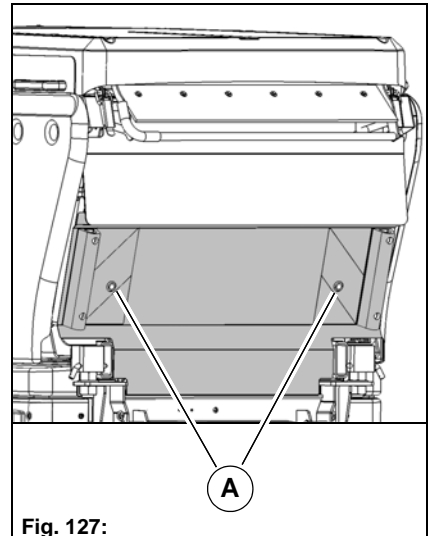
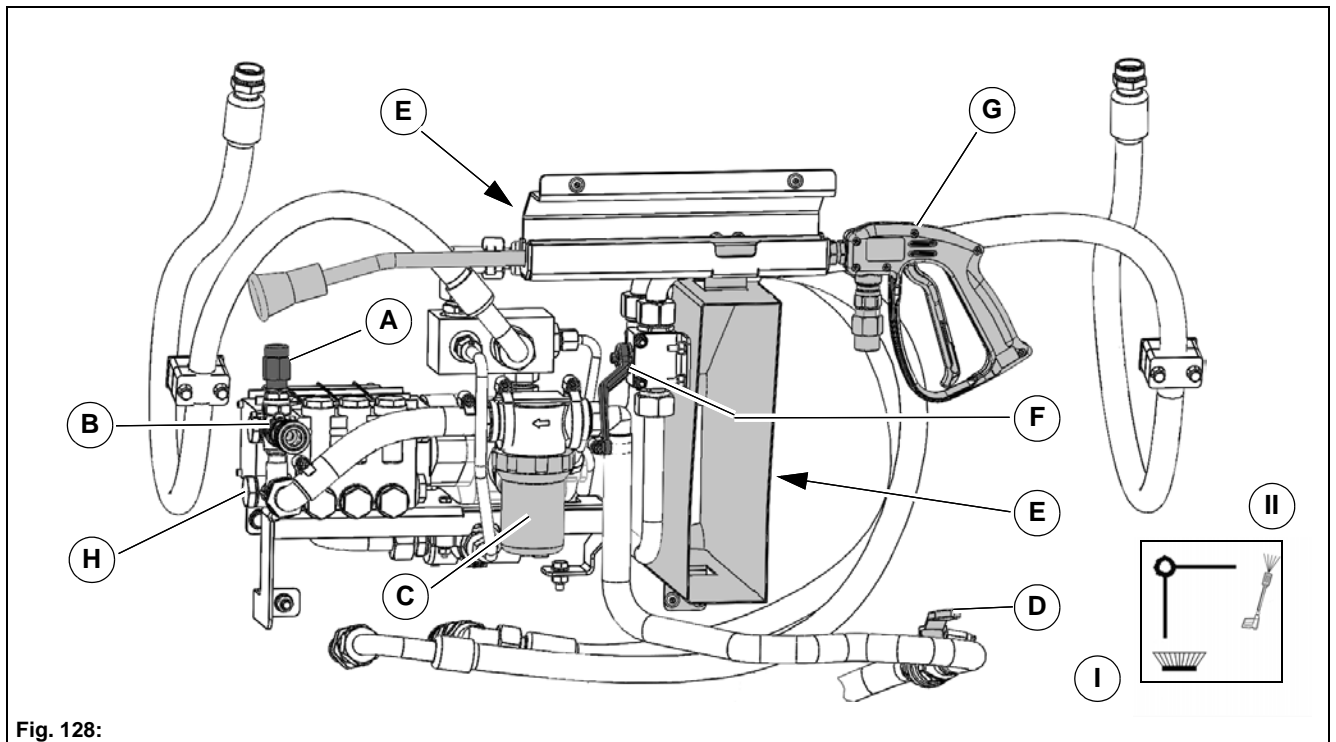

Fig. 127:
Fig. 128:
The high-pressure cleaner **Fig. 128-H** is located behind the rear flap of the dirt hopper. Check the following before starting up:
- Check the water filter **Fig. 128-C** of the high-pressure cleaner and clean it if necessary.
1. Start the vehicle and drive to the work site. Engage the parking brake. Open the flap **Fig. 127-A**. Remove the pressure hose from the hose holder and plug it on at the connection **Fig. 128-B**.
2. Set the changeover valve **Fig. 128-F** to the high-pressure cleaner position.
3. Open the fresh water supply **Fig. 128-D**.
5. Set the pressure controller **Fig. 128-A** to the required working pressure.
6. Clean the surface with the lance **Fig. 128-G**.
7. Reset the changeover valve to the suction fan position and close the fresh water supply again. After cleaning stow the lance and the pressure hose back in the stowage **Fig. 128-E**.